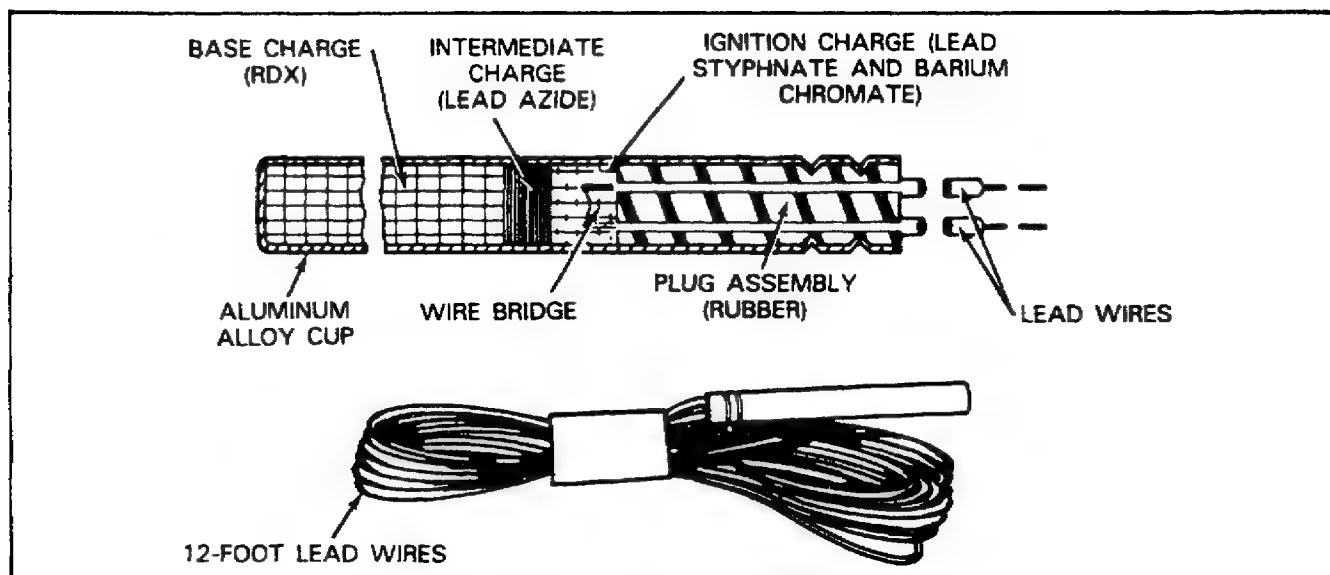

Figure 90. Cap, Blasting, Electric, M6.
**Electric Blasting Cap.** The M6 electric blasting cap (Figure 90) is the most commonly used electric blasting cap in military demolition operations. It is used to set off high-explosives using a blasting machine or another source of electric power. The electric blasting cap consists of a small metal tube (less than 3 inches long and 1/4 inch in diameter) that contains the initiating explosive.